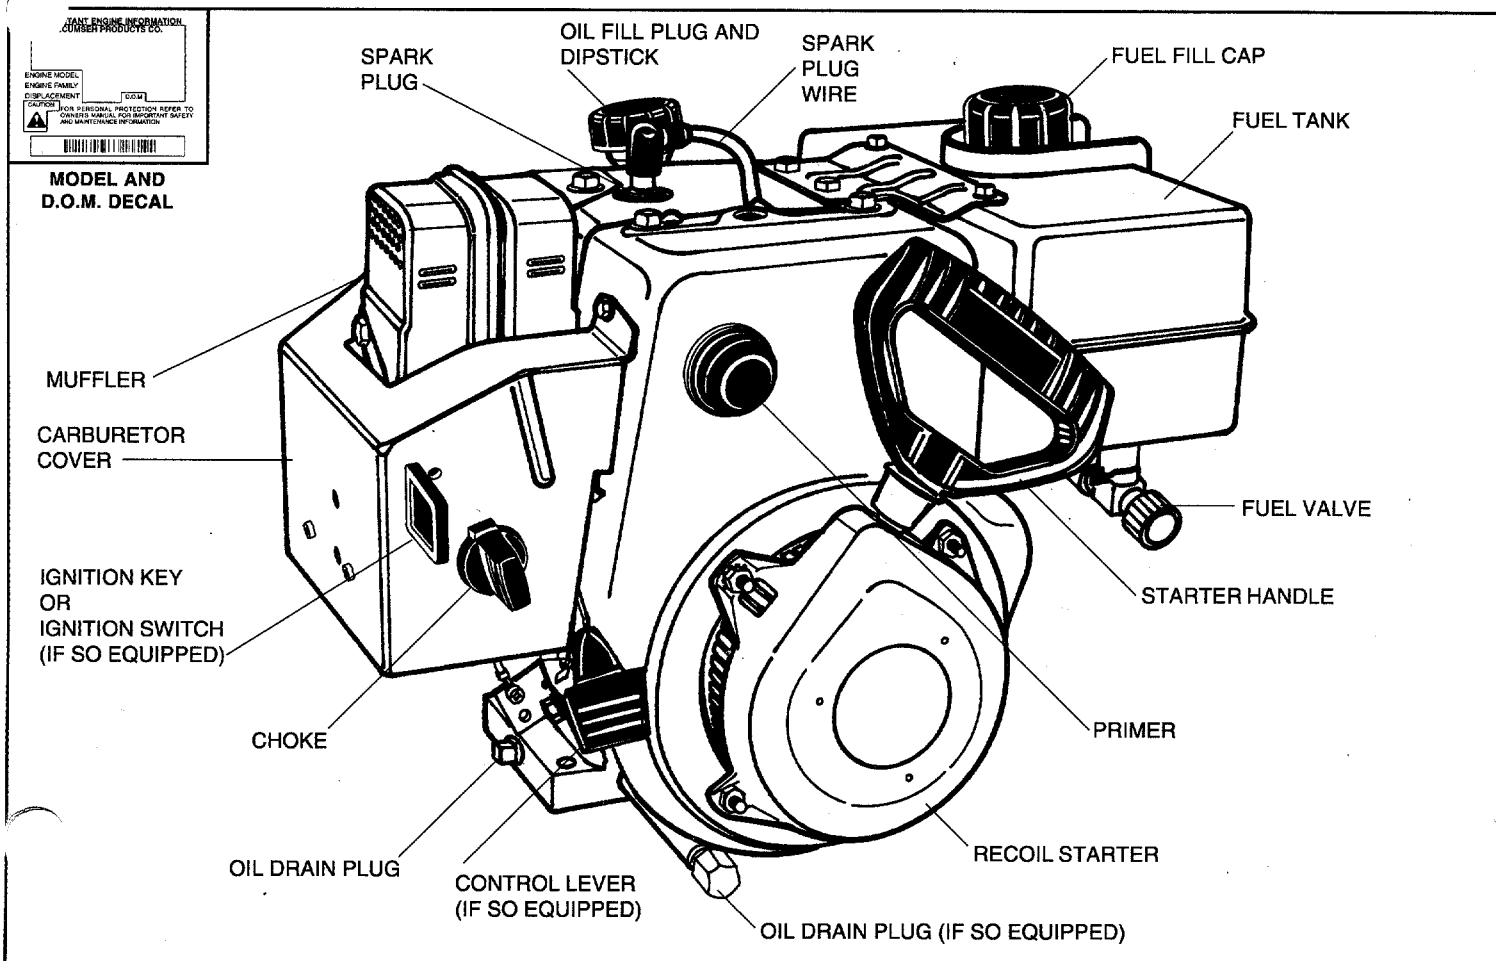

Figure 1
B. Clean area around oil fill plug (see Figure 1).
④ CHECK THE FOLLOWING:
B. Be sure spark plug wire is attached to spark plug (see Figure 1).
- Ignition key (if so equipped see Figure 2) is inserted into ignition keyslot in carburetor cover (see Figure 1).
① RECOIL STARTER (see Figure 1):
D. Grasp starter handle (see Figure 1) and pull rope out, slowly, until it pulls slightly harder. Let rope rewind slowly. Then pull rope with a rapid full arm stroke. Let rope return to starter slowly.